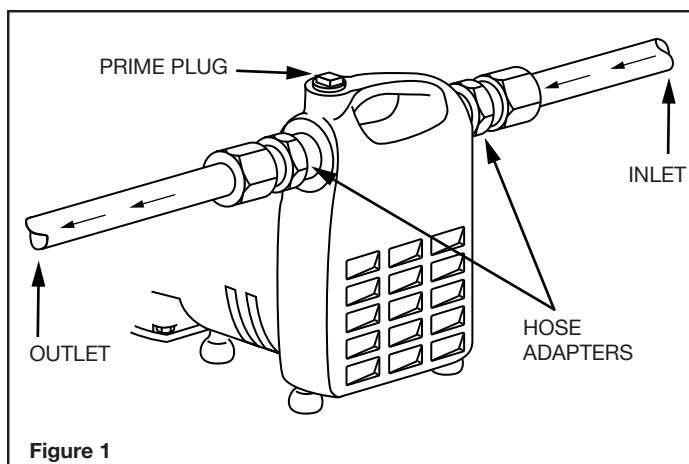

Figure 1
4. Figure 1 shows a typical installation. Threaded adapters are furnished for attaching garden hose where conditions permit its use. In no case should the pump be more than 15 feet above or away from water source. Install a foot valve to keep it self-priming.